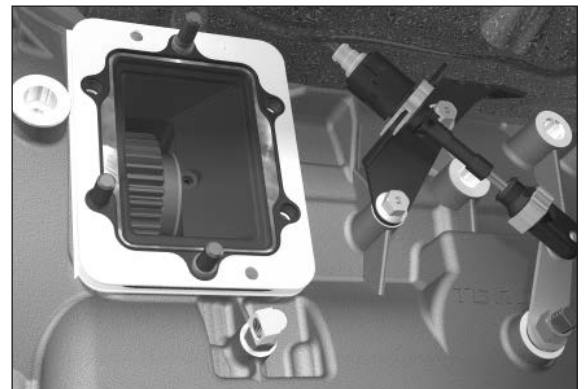

Figure 31
10. Install the gasket supplied with the PTO over the studs and against the geared adapter (**Fig. 31**).